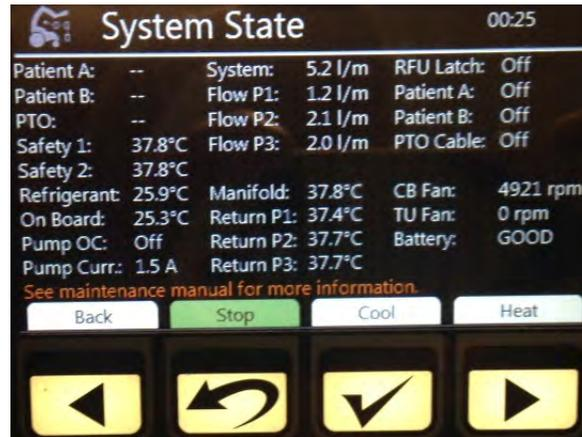

Figure 5 – System state, sample screen
2. The system state (Figure 5).